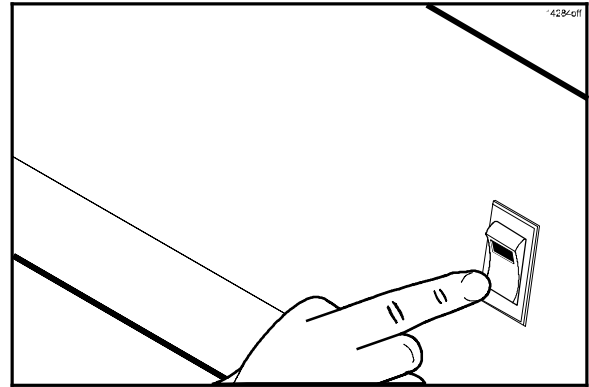

Figure 42
37. Place the fan interlock switch in the OFF position. (See Figure 42.)